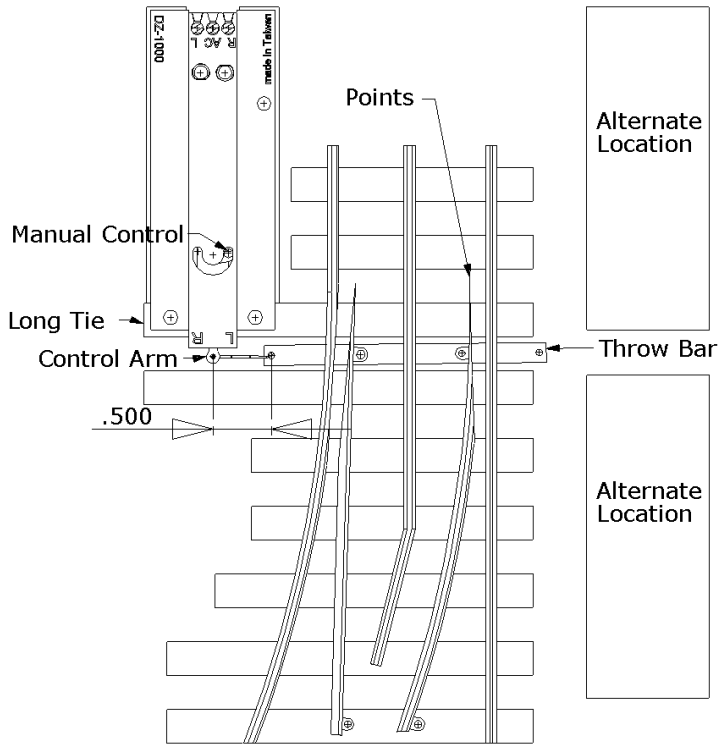

Figure 1
This switch machine is made for most O, S, and Standard Gauge switches that have about 0.3" of motion at their throw bar and operate on AC voltage. It can be easily wired for Automatic Non-derailing operation. Right or left hand turnouts or switches are readily accommodated. The switch machine may be mounted in alternate locations. (Figure 1)
1. Location of DZ-1000 – (If your switch has pre-drilled holes for DZ-1000, skip to #2) Use the manual control on the DZ-1000 to position the control arm in the center of its travel. Move the switch throw bar so that the switch's points are centered. Position the DZ-1000 next to the switch so that the hole in the control arm is in line with the hole in the throw bar. For **GarGraves** switches, the distance from the hole in the DZ-1000 control arm to the hole in the throw bar is 1/2". Use the holes in the DZ-1000 as guides to drill two (2) 1/16" holes into the long tie. When mounting to the table, if you use roadbed under your switch, you should use it under the DZ-1000. Drill two holes, one at the lever and for the second hole use the hole in the middle of DZ-1000. (Figure 1)